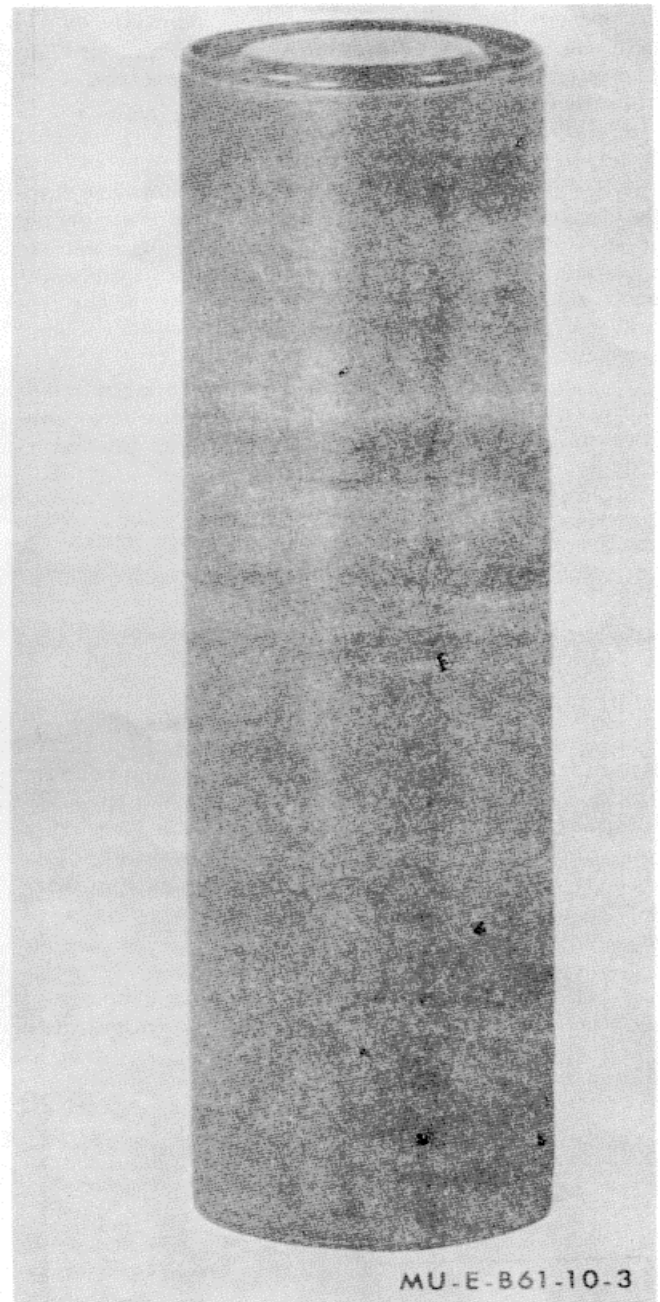

Figure 3. Shipping container.
a. *PBA-1 Series Lots.* Each M176 grenade launcher is packaged in a spirally wound fiber ammunition shipping container (fig. 3). Chipboard and felt filler pads are placed in the container as required to keep the launcher from moving within the container. Pressure-sensitive tape holds the cover in place. Eight launchers are packed four to a layer in a nailed wood shipping box that has metal strapping. Filler pads are placed in the shipping box as required to insure a tight pack. Each end of the wood shipping box contains a rope handle.